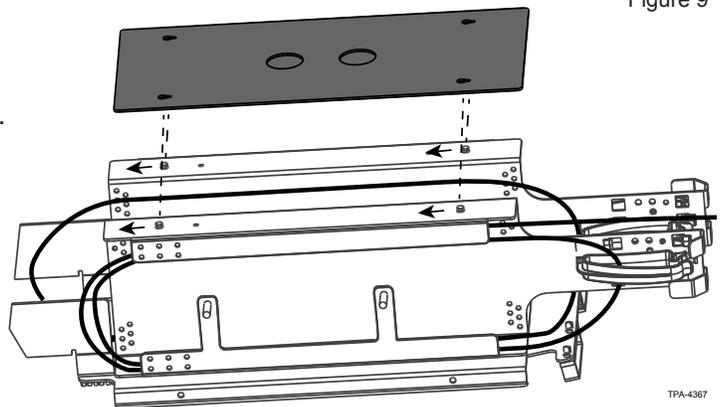

Figure 10
**Step 6:** Attach the express cover once the fibres are routed into the side storage area (Figure 10).